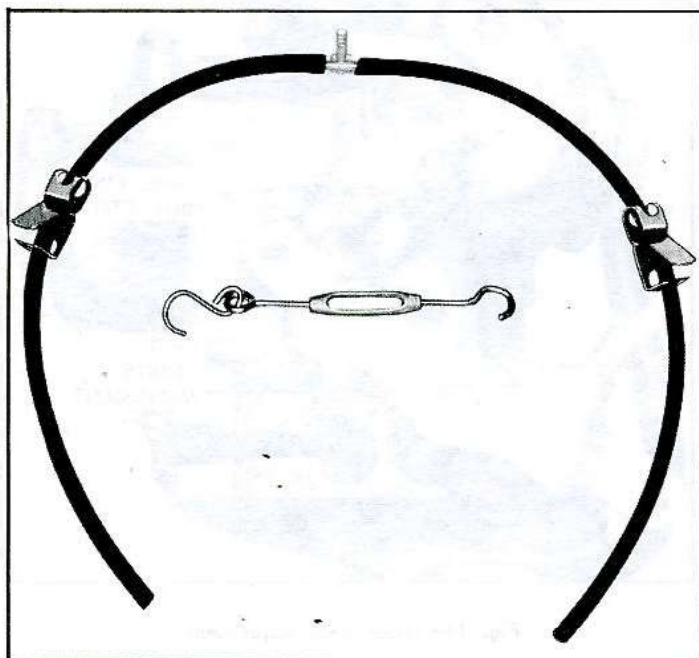

Fig. 10—Vacuum Gauge Adapter and Turnbuckle
**NOTE:** The vacuum gauge must be connected to both carburetor spark port tubes. A windshield washer tee makes this possible (fig. 10).
hooks (fig. 10). When this tool is installed between the accelerator rod and fuel line the rpm can be adjusted by turning turnbuckle.